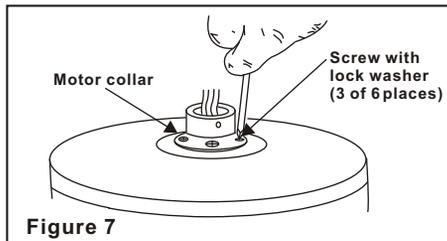

Figure 7
2. Remove three of six screws and lock washers (every other one) securing the motor collar to the top of the fan motor housing. (Figure 7)